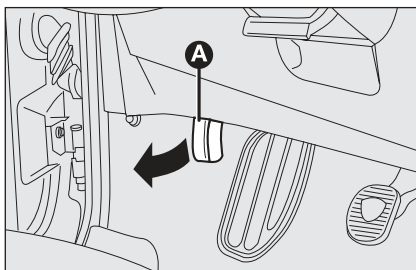

fig. 81
- pull lever **A-fig. 81** in the direction of the arrow;